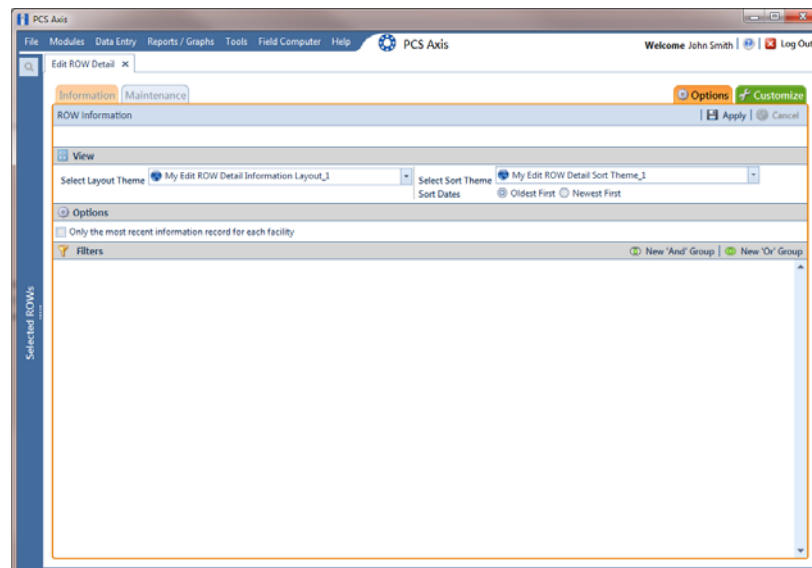

Figure 3-35. Options/Information Grid
- 2 Click the **Information** tab **Information**, then the **Options** tab **Options** to open the *Options* page (Figure 3-35).